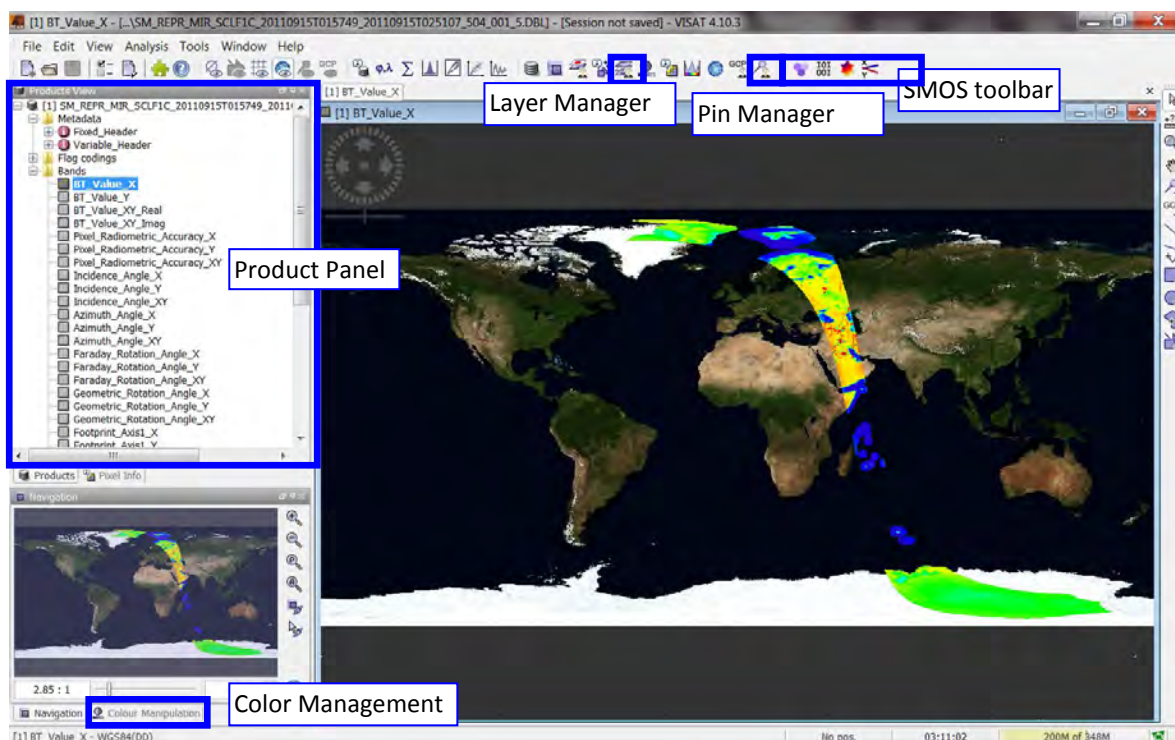

Fig. 1 Screen capture of Beam interface (check Beam Visat manual for a complete description)
- Start Beam interface  (Fig. 1)
- In the left panel ("Product view"), double click on the "Metadata", you can now explore the HDR content easily (see Fig. 1)